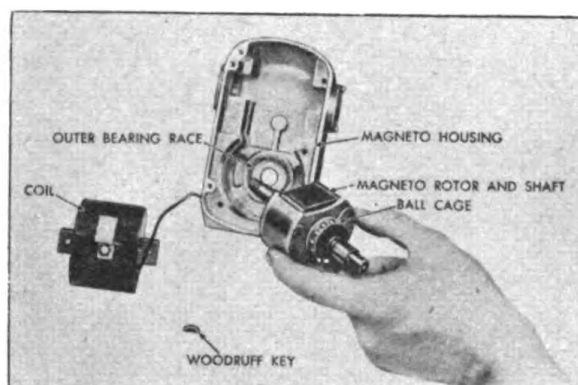

Figure 240. Removing Magnet Rotor and Shaft Cage Assy.
F. Remove woodruff key from drive end of magnet rotor and pull out magnet rotor and shaft. Figure 240.